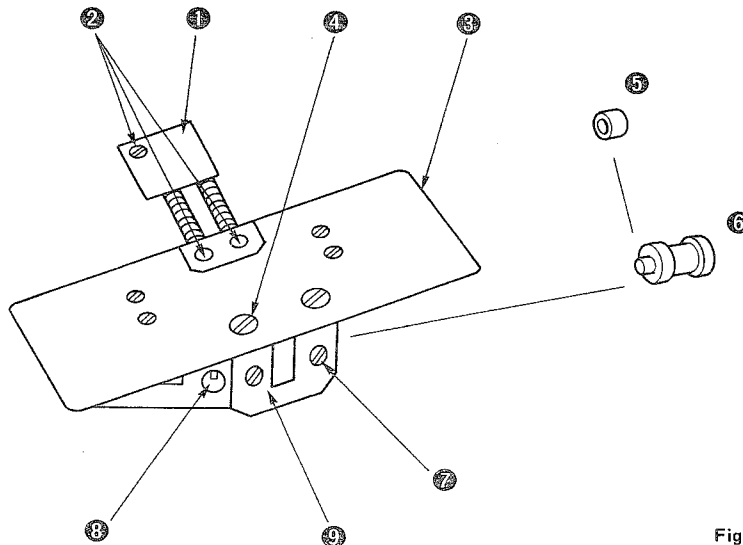

Fig. V-2-1
Attach the components illustrated in Fig. V-2-1 (cloth feed plate and table). First adjust the position of the cloth feed plate, as shown in Fig. V-2-1. Once the cloth feed plate has been correctly positioned, use an electric drill to bore two knock pin holes in both base ① and table support arm ②.